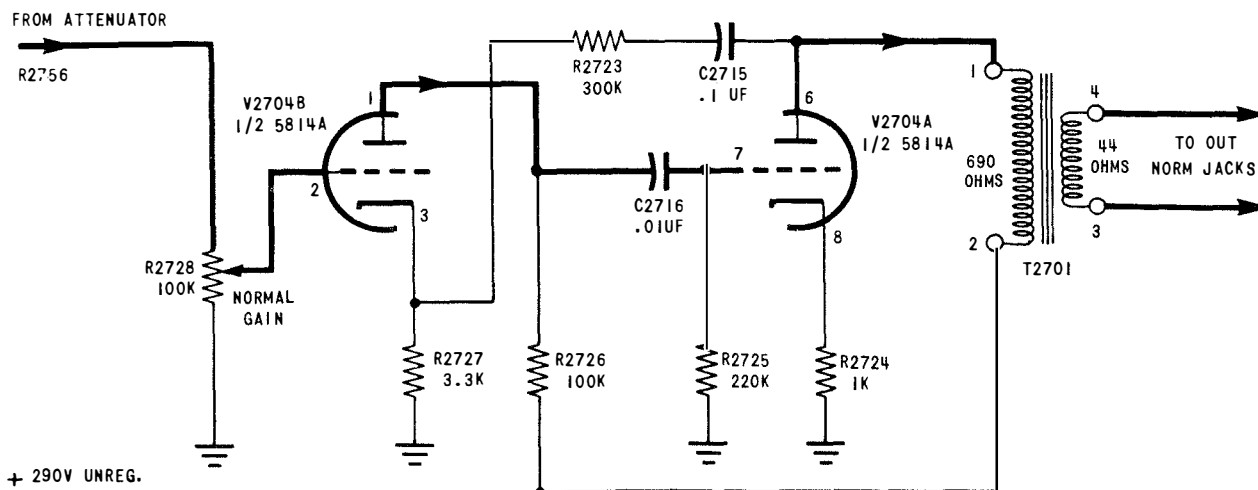

Figure 2-22. Schematic Diagram of Normal Line Amplifier
d. **NORMAL AMPLIFIER CIRCUIT.** - Figure 2-22 shows a schematic diagram of the normal line amplifier of the Electronic Frequency Converter CV-244A/FCC-3. This amplifier transmits all signals in the frequency spectrum of 382.5 cycles to 3315 cycles directly through the Electronic Frequency Converter CV-244A/FCC-3 with a total input to output ratio of one, relying upon the normal receiver filters to reject the converted band of frequencies. The input signals are applied to the grid of a 5814A type tube V2704B with a 100,000 ohm potentiometer R2728, are amplified, and are then applied to the grid of V2704A by the 0.01 mf coupling capacitor C2716. After amplification by V2704A the signal is coupled to the line by an impedance matching transformer T2701. Voltage is fed back through C2715 (0.1 mf capacitor) and R2723 (300,000 ohm resistor) from the plate of tube V2704A to the cathode of tube V2704B to stabilize the gain of the amplifier with negative feedback. R2728 is adjusted for the same signal level across the IN LINE as across the OUT NORM LINE.